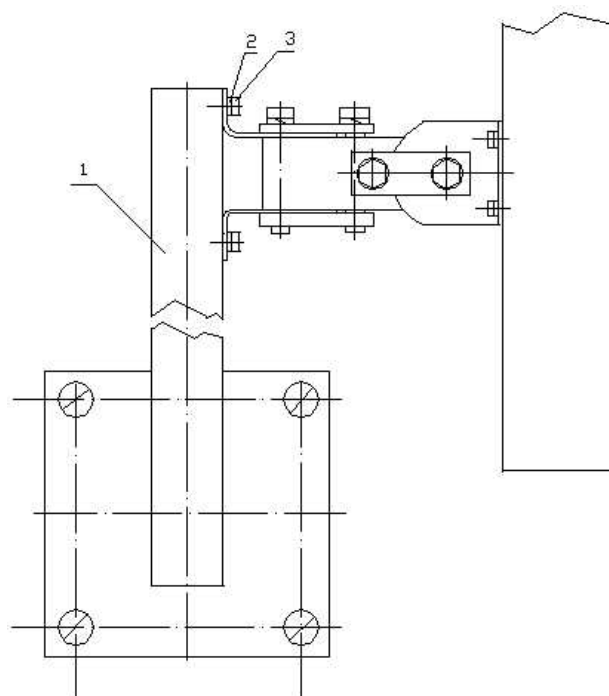

Fig. 10.3
Using screws 3 with spring washers and nuts attach the TU (RU) to holder 2. Drill suitable holes in wall 1 and using screws or bolts with suitable washers fix the RU (TU) to the barrier. If the TU and RU have to be located above a barrier or a building wall it is possible to use special holders 1 (see Fig.10.3) from the contents of delivery.